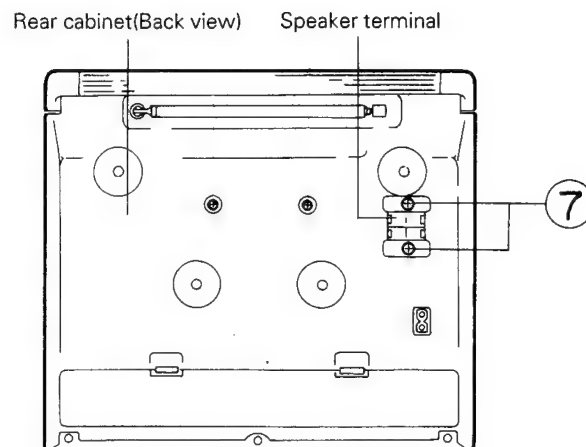

Fig. 5-10
■ **Main board and Power transformer** (Refer to Fig. 5-10 to 5-14)
6. Remove two screws ⑦ retaining the speaker terminal to remove it.
7. Remove one screw ⑧ retaining the main board from the front of the rear cabinet.
9. Remove the two screws ⑨ retaining the mecha. holder B.
10. Remove the one screw ⑩ retaining the battery contact board.